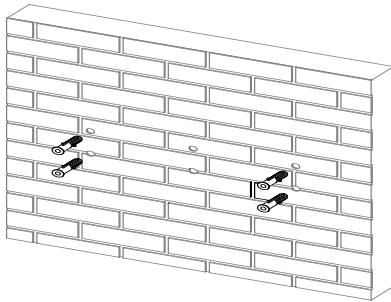
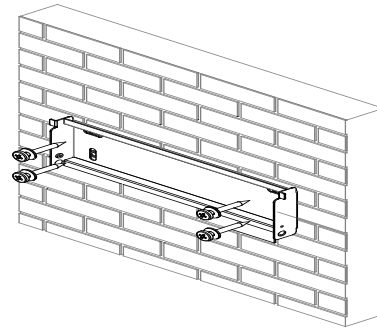

FIG.6-7 Install Expansion Anchors
FIG.6-8 Fix Wall-mounting Bracket
2) Knock expansion anchors into the corresponding four holes, and then fix the wall-mounting bracket to the wall with self-tapping screws (spec, ST 6.3 x 50), as per FIG. 6-7 & FIG. 6-8.